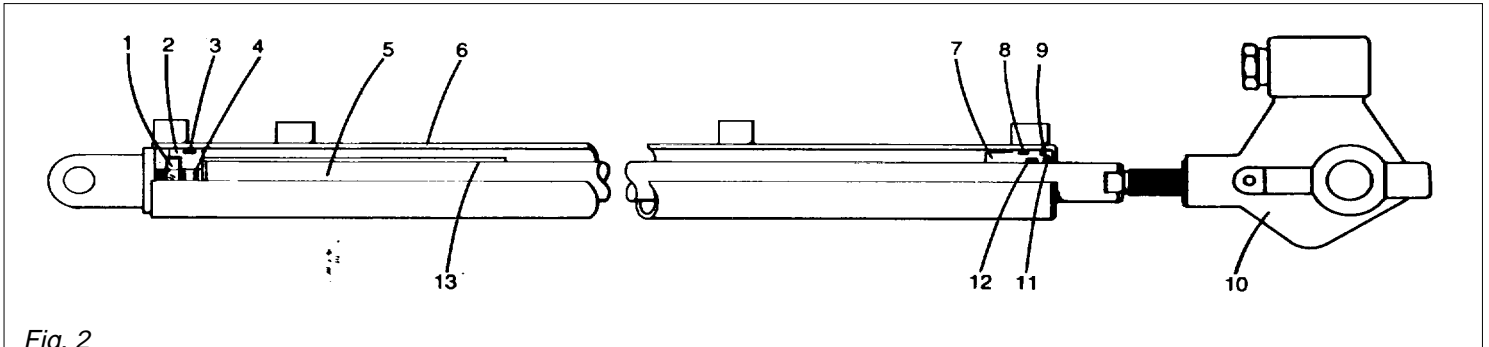

Fig. 2
3.3 Beam Cylinder Disassembly (Refer To Fig. 2)
- (b) Unscrew and remove anchor block (10) from rod end of cylinder.
- (d) Remove retainer ring (9). Pull rod (5), piston (2), and gland guide (7) from cylinder body (6) as a unit.
- (e) Remove jam nut (1). Remove piston (2), stop tube (13), and gland guide (7) from rod (5).